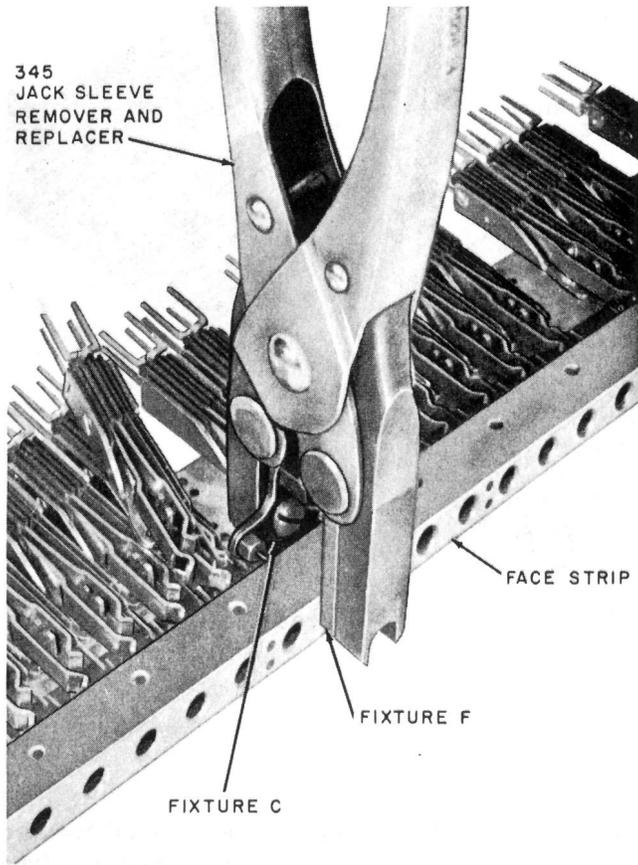

Fig. 16—Method of Flaring Front of Sleeve on 510-, 511-, and 512-Type Jacks
3.27 Lock the sleeve in place by inserting fixture C of the 345 tool in the rear of the sleeve and fixture F in the face of the sleeve. Bring the jaws of the 345 tool firmly together to flare the front end of the sleeve. See Fig. 16.